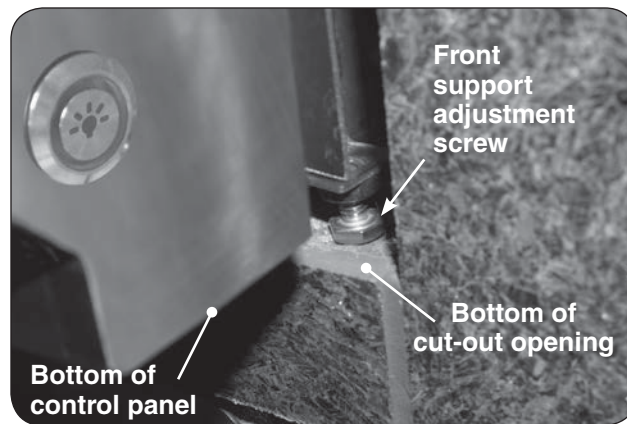

Fig. 21-1 Front support adjustment screws
6. Rotate the front support adjustment screws to the left to raise and to the right to lower the respective side of the appliance grill. Use a  $\frac{7}{16}$ " open-end wrench as needed. See Fig. 21-1.